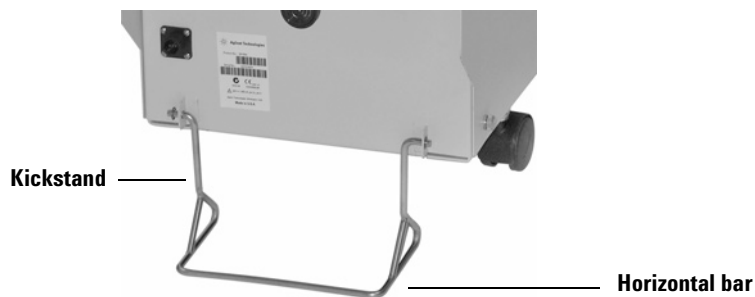

Figure 15 Quiet Cover II in a tilted position.
- 3 With the kickstand released from the clip, step down on the horizontal bar until the Quiet Cover II is in its tilted position. See Figure 15.